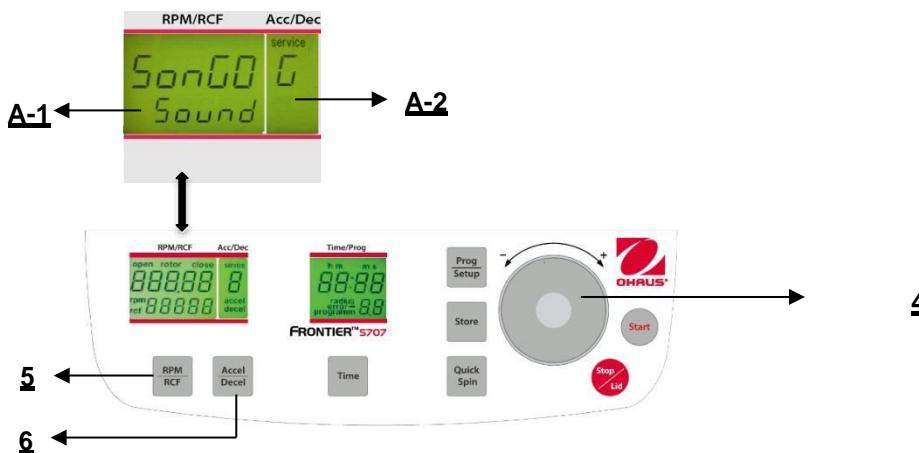

Figure. 31
Proceed as described under point 4.1.2 to enter this program mode and then press the key "Accel/Decel" (6). In the display "Acc/Dec" (A-2) the word "Service" flashes. Now select the letter "G". with the adjusting dial (4). As a result, in the display "RPM/RCF" (A-1), the word "SonGo/Sound" appears. After pressing the key "RPM/RCF" (5), you can select a song with the adjusting dial (4). (See figure 31).